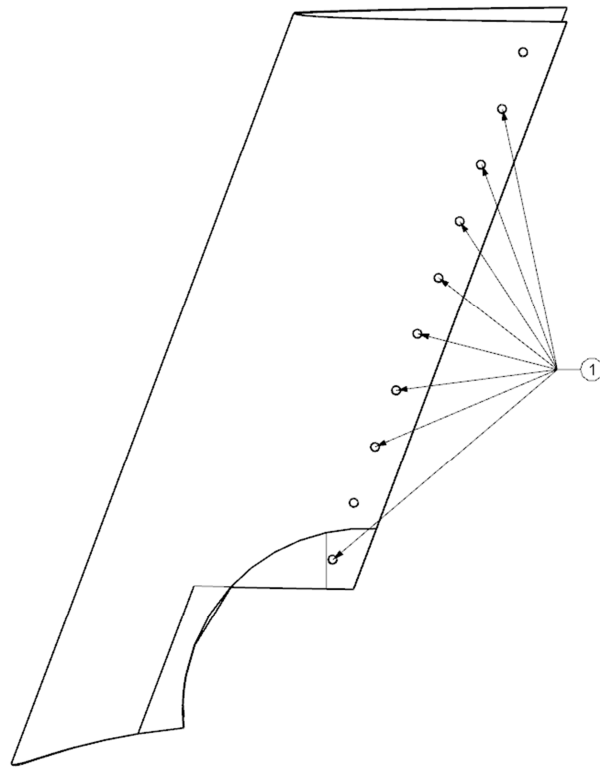
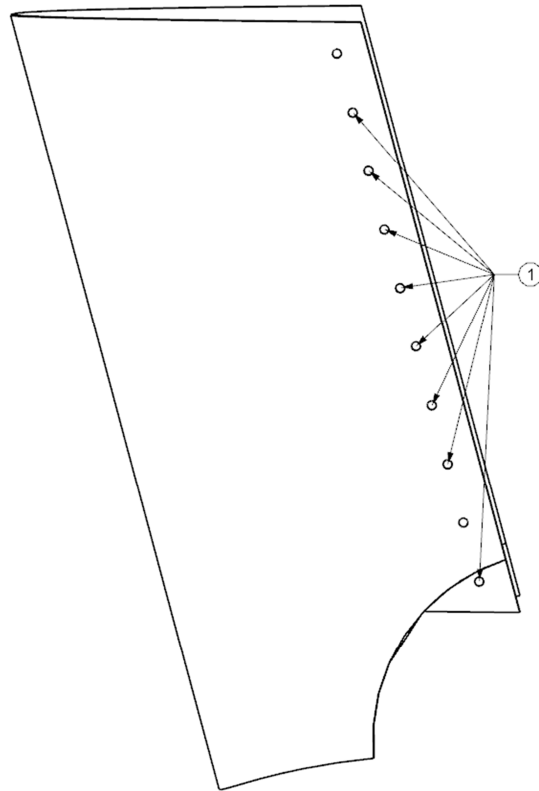
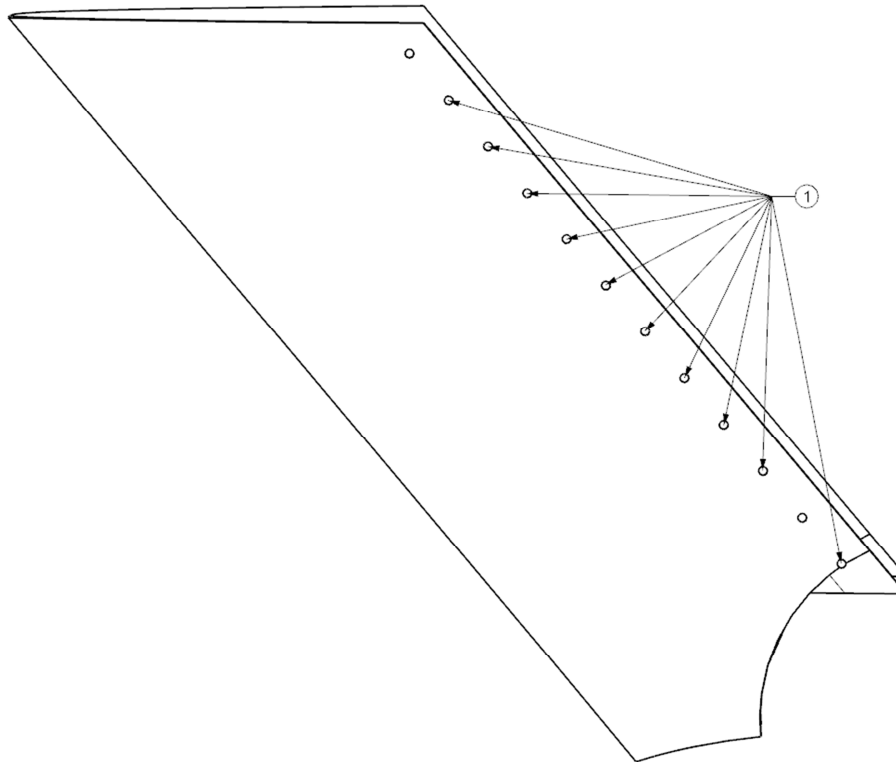

Figure 3-11: Outboard Wing Pylon Leading Edge Fastener Placement
Figure 3-12: Center Wing Pylon Leading Edge Fastener Placement
Figure 3-13: Inboard Wing Pylon Leading Edge Fastener Placement
2. Attach wing pylon leading edges (UWB-ICE-06-401, UWB-ICE-07-401, and UWB-ICE-08-401) to the starboard wing array pylons using MS27039-1-12 fasteners in the locations specified in Figure 3-11, Figure 3-12, and Figure 3-13.